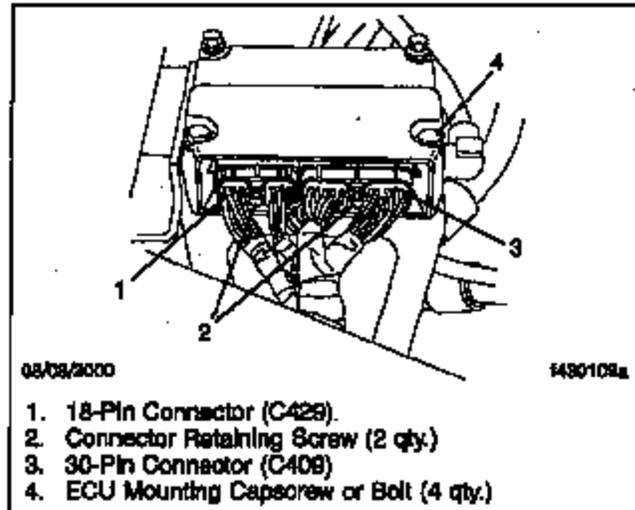

Fig. 1. ECU installation (relay mount shown)
4. Remove the two retaining screws securing the electrical connectors to the ECU. See Fig. 1. Remove the connectors.